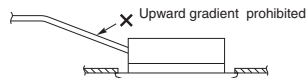

Fig. 3-13
- Do not install the pipe with an upward gradient from the connection port. This will cause the drain water to flow backward and leak when the unit is not operating. (Fig. 3-13)